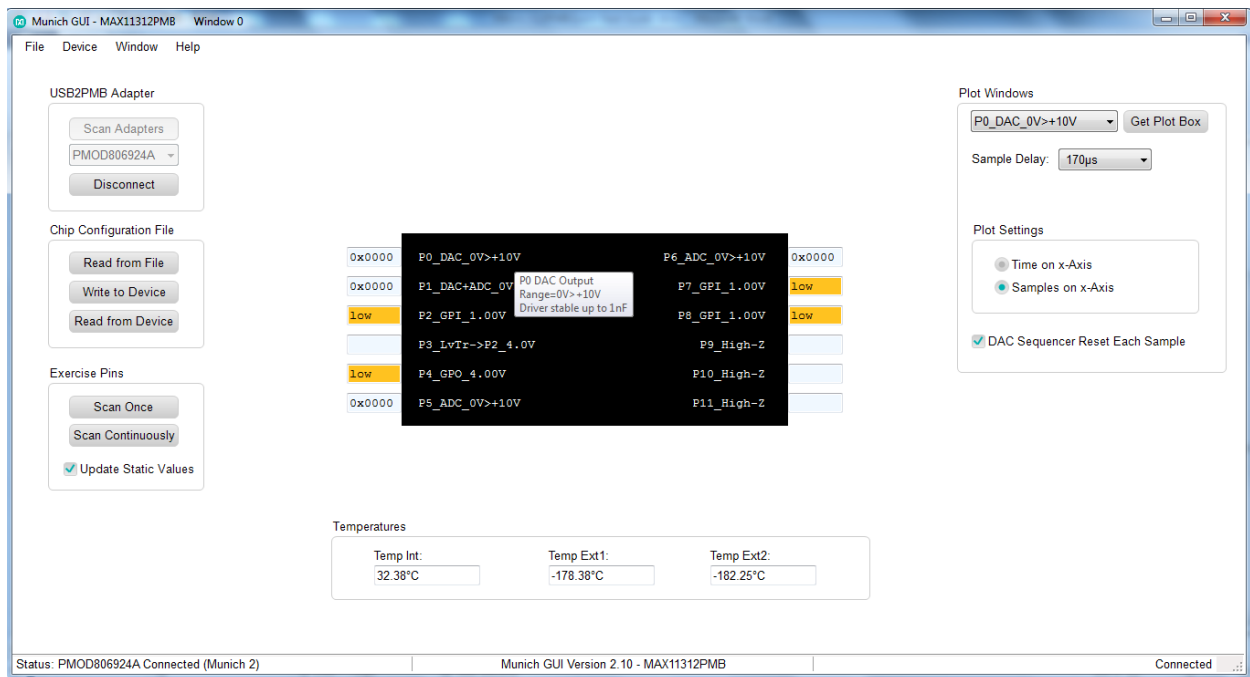

Figure 21. Detailed port description.
7. Hover the mouse cursor over the abbreviated pin description to obtain the detailed description as shown in **Figure 21**.